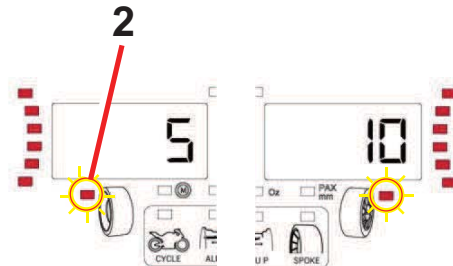

Figure 29g
14. Turn the wheel to the next WAP position (2 Figure 29g).